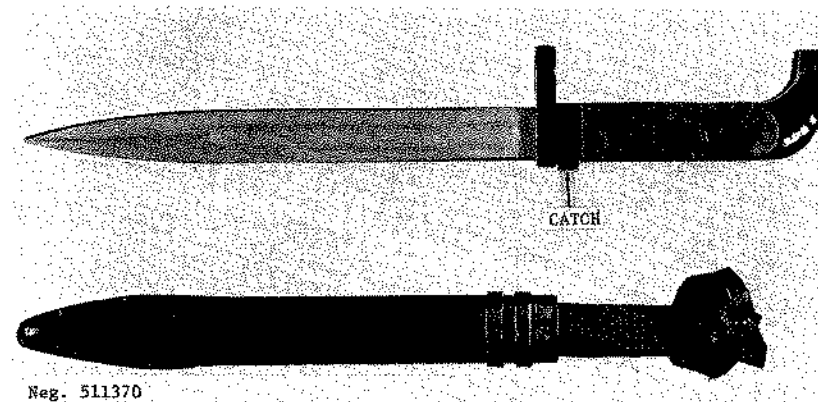

Figure 71. AK-47 bayonet.
(2) The combined drift, screwdriver, and wrench have several uses: To adjust the front sight, mate the screwdriver blade to the slot near the end of the case, slip the wrench over the front-sight post, and turn as necessary. Unscrew the post in order to move the strike of the bullet downward. To use the screwdriver, reverse the combination tool, but place it in the center oval bores, with the wrench end engaged in the smaller hole.
c. The bayonet (fig 71) is affixed by positioning its loops in front of the muzzle nut and the gas cylinder body, and sliding the bayonet to the rear until the bayonet catch engages the muzzle nut. The bayonet is removed by pulling the catch—located behind the hilt—away from the handle and sliding the bayonet forward and off.